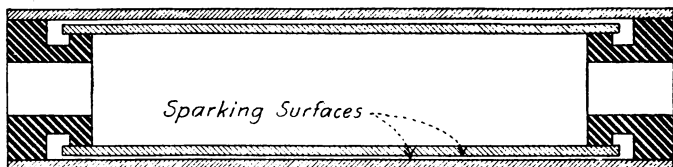

Fig. 30.—A Sectional View of the Lowenstien Type Quenched Spark Gap.
G. Quenched spark gaps. A disadvantage of the quenched gap on a 60-cycle set is the low note which it produces. For this reason this type is seldom used for experimenters' transmitters. An interesting gap originated by the Lowenstien Company is shown in Fig. 30.